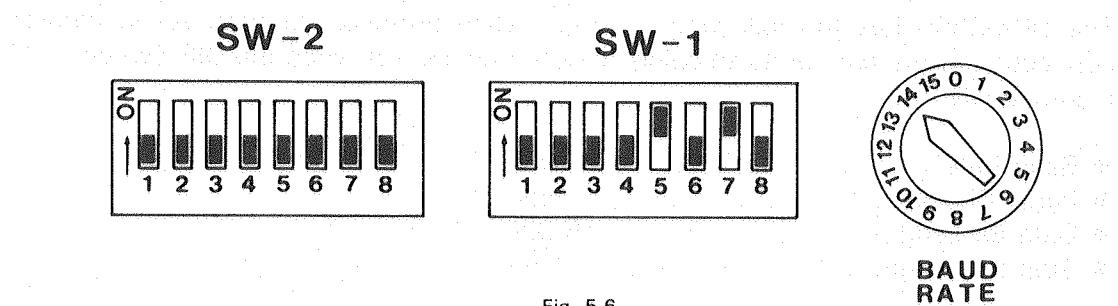

Fig. 5-6
- ① Turn OFF the power switch of the DPX-3300.
- ② Turn ON the DIP Switch 1- ⑤ and ⑦ by hitting them upward. (Remember: You must do this because they have been turned OFF at the time of shipping.)
Also, at the time of shipping, plotting papers and character fonts have been set at ANSI-D size and ANSI ASCII (I), respectively. And the baud rate, the data bits, the stop bit and the parity check have been set at 9600 baud, 8 bits, 1 bit and non, respectively. For settings other than these, see Fig. 5-6 to set the DIP Switch 1 ("SW-1") and the DIP Switch 2 ("SW-2") properly. (See 10.1 "LIST OF DIP SWITCH SETTINGS" in CHAPTER 10.)